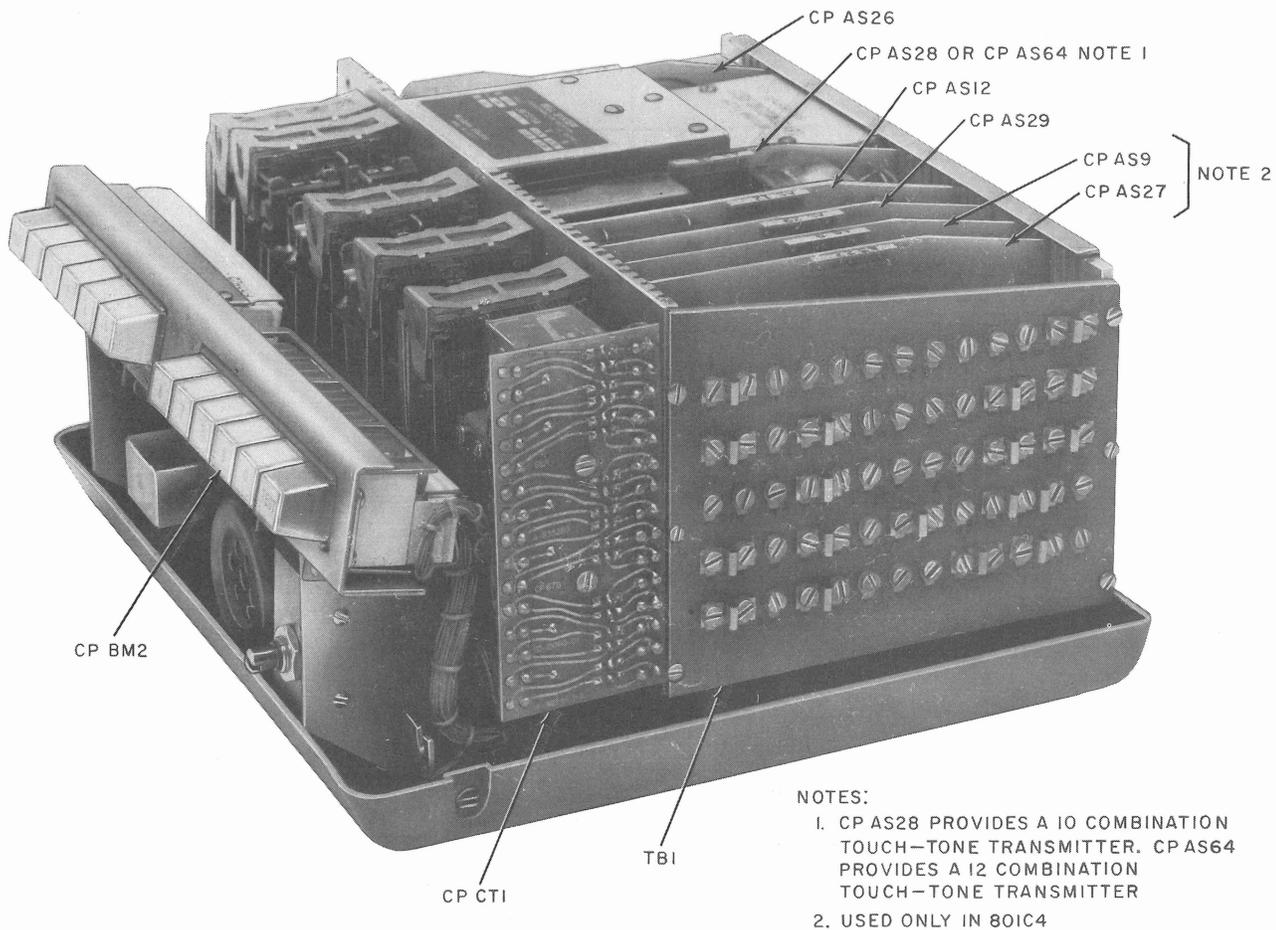

Fig. 4—Data Auxiliary Set 801C3 or 801C4—Cover Removed Showing the Circuit Pack Locations
2.10 The DAS 801C3 can be converted to an 801C4 by the installation of two circuit packs (CP AS9 and CP AS27). Conversely, the 801C4 can be converted to an 801C3 by the removal of the circuit packs. Refer to Fig. 4 for the location